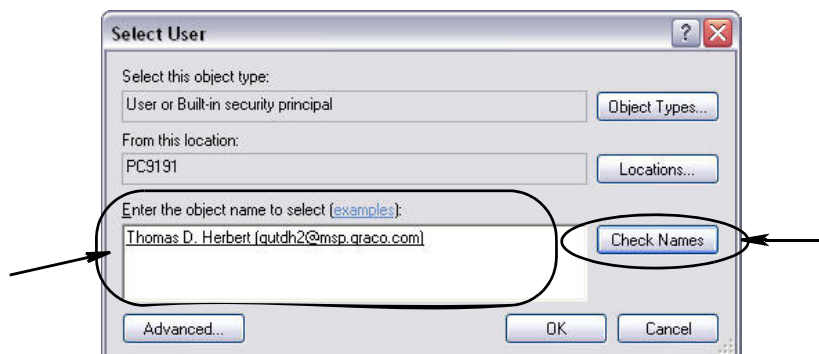

FIG. 59
- h. The dialog box shown in FIG. 59 displays. In the “Enter the object name to select” field type your user name. Then click the Check Names button.